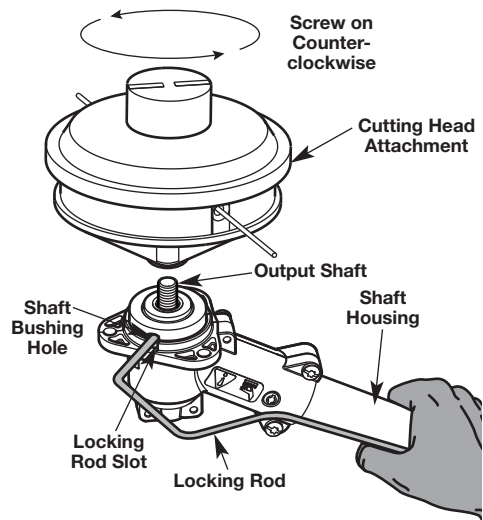

Fig. 15
1. Position the cutting head attachment as shown (Fig. 15). Align the shaft bushing hole with the locking rod slot. Insert the locking rod into the shaft bushing hole.
2. Hold the locking rod in place by grasping it next to the boom of the shaft housing (Fig. 15).
3. Fully press and release the primer bulb 10 times, slowly. Some amount of fuel should be visible in the primer bulb (Fig. 15). If fuel cannot be seen in the bulb, press and release the bulb until fuel is visible.